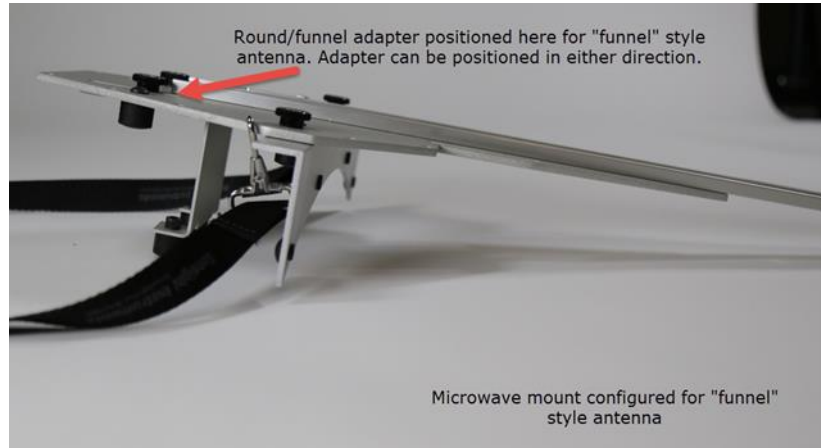

Figure 8
- 7) The mount must be positioned directly on top of the antenna with minimal side-to-side error, or “roll” error. Place the included digital level across the mount, perpendicular to sliding rail, to measure the “roll” of the mount. Adjust the mount to achieve a roll of $\pm 0.5^\circ$. *See Figure 8*
See Figure 8
- 6) The mount must be positioned directly on top of the antenna with minimal side-to-side error, or “roll” error. Place the included digital level across the mount (perpendicular to sliding rail) to measure the “roll” of the mount. Adjust the mount to reduce roll error to within +/-0.5 degrees. *See Figure 8*